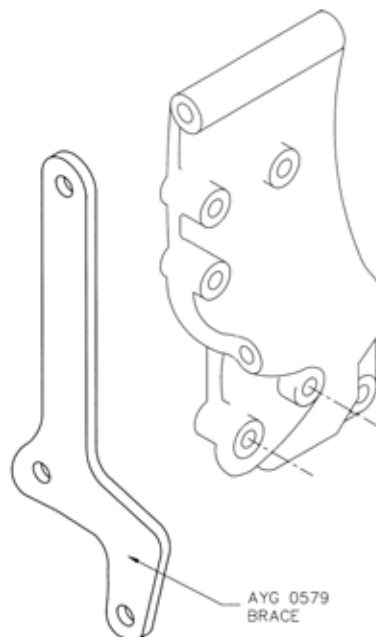

Figure 3 Brace
- g. Position the brace between the front alternator mount clamp ring and engine mount casting (Figure 3). Refit the two 12 mm bolts. The lower leg of the brace will be adjacent to the compressor mount bracket and should be clamped via the new tapped spacer block. Leave all bolts and brackets loose. Check the complete assembly for alignment before locking up fixings to brackets.